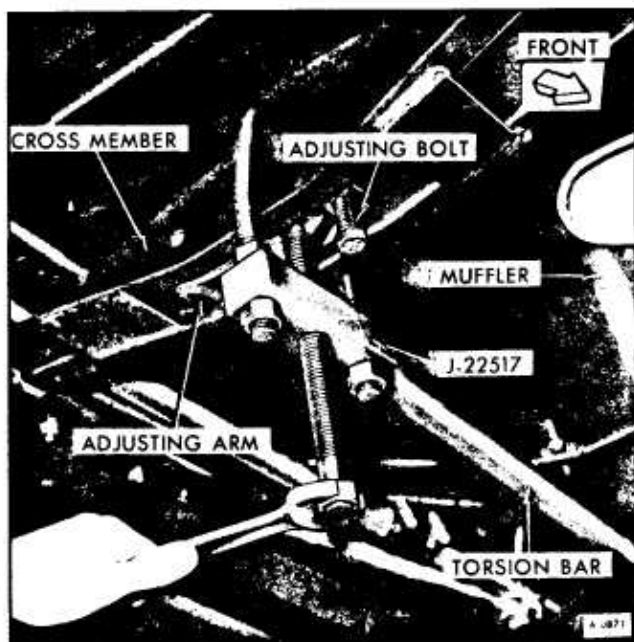

Figure 16—Removing Torsion Bar
2. Before using Tool J-22517, remove two nuts and center screw, then place tool over crossmember support. Align pin of tool into hole in crossmember. Install two nuts on tool and center screw: Turn center screw until seated in dimple of torsion adjusting arm. (figure 16)